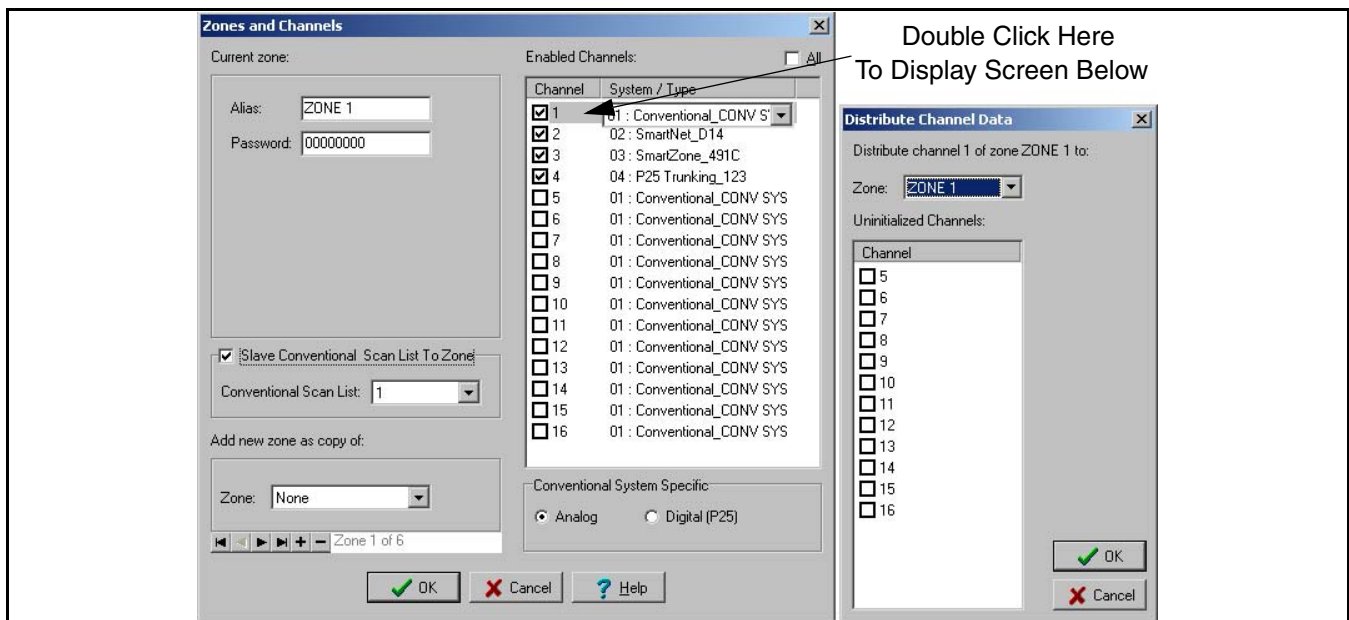

Figure 6-1 Edit Zones and Channels Screen
1. Select the Zone screen (see Figure 7-2). Then click  to display the Edit Zones and Channels screen shown in Figure 6-1. Alternatively, click  in the toolbar.
Channels are set up by assigning them to a zone in the Edit Zones and Channels screen shown in Figure 6-1. Proceed as follows to set up any type of
1. If necessary, select the Zone screen (see Figure 7-2) and then click  to display the Edit Zones and Channels screen shown in Figure 6-1. Alternatively, click  in the toolbar.
6. To copy an enabled channel to unprogrammed channels of the current zone or other zones, double click the shaded area of the channel as shown in Figure 6-1. The “Distribute Channel Data” screen is then displayed to select the desired channels.